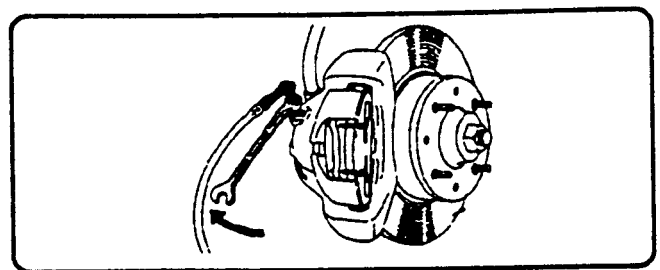

fig. 4
6. When the new brake fluid is visible in the clear PVC hose, tighten the nipple again (fig. 4).